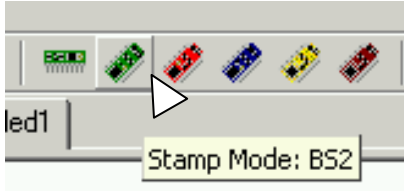

Figure 1-35
- √ Begin by clicking the BS2 icon (the green diagonal chip) on the toolbar, shown highlighted in Figure 1-35. If you hold your cursor over this button, its flyover help description “Stamp Mode: BS2” will appear.